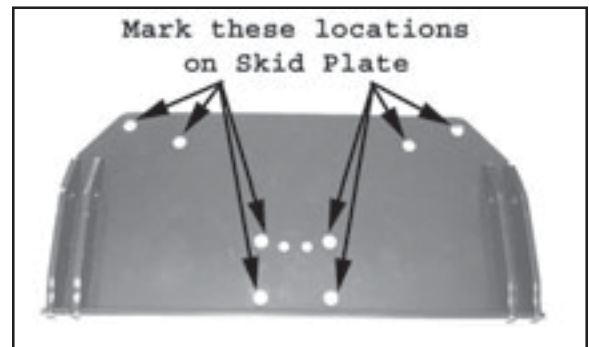

Figure 2 Mark Holes
3. Using a permanent marker (or similar), mark inside each of the eight open holes on the Plow Mount and onto the skidplate as shown in Figure 2. Remove the plow mount from the vehicle when finished. Do not remove the Tab.